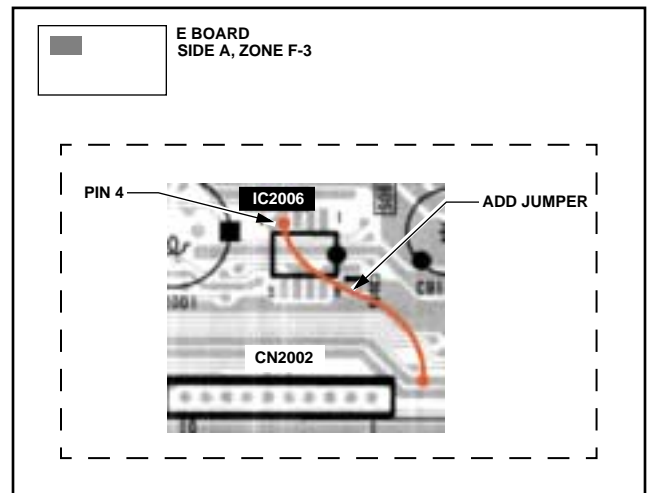

Figure 2
2. Solder jumper between IC2006 pin 4 and -12V bus. (See Figure 2.)